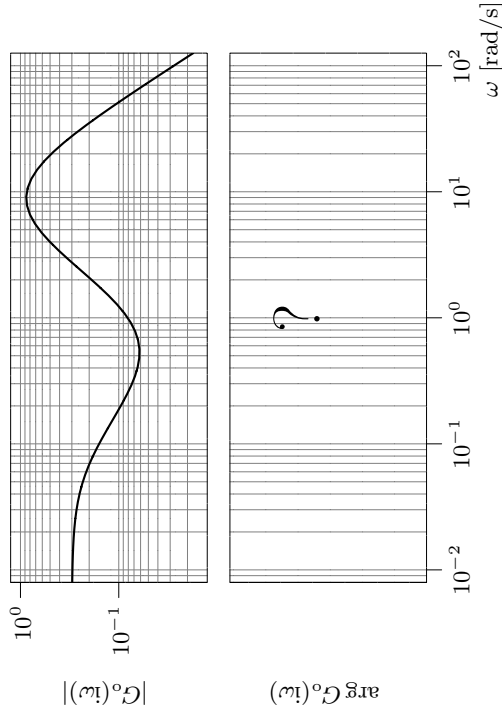

Figure 5.12b
- b) Repeat for the transfer function whose amplitude curve is given in Figure 5.12b. Justify your answers carefully.